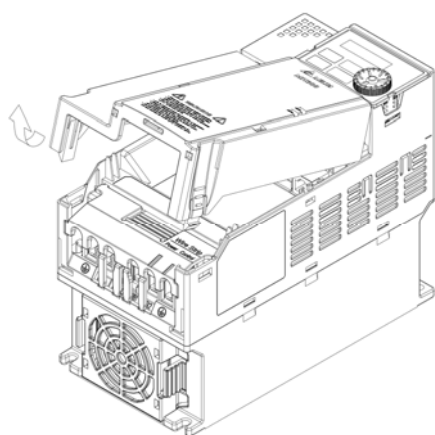

Figure 8-1
1. As shown in the Figure 8-1, switch off the power of the motor drive, and then remove the front cover.